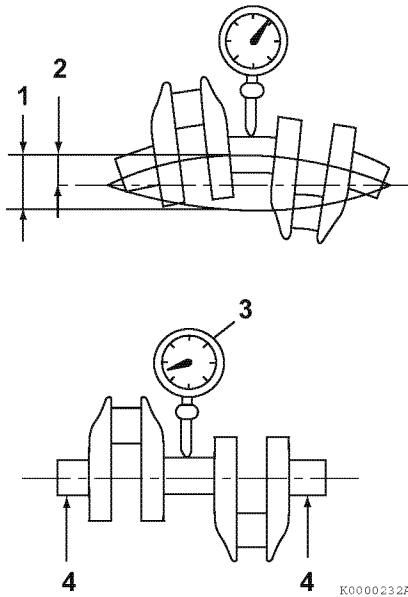

Figure 6-76
1. Put the crankshaft end journals (**Figure 6-76, (4)**) on V-blocks.
2. Place a dial indicator (**Figure 6-76, (3)**) on a center main bearing surface.